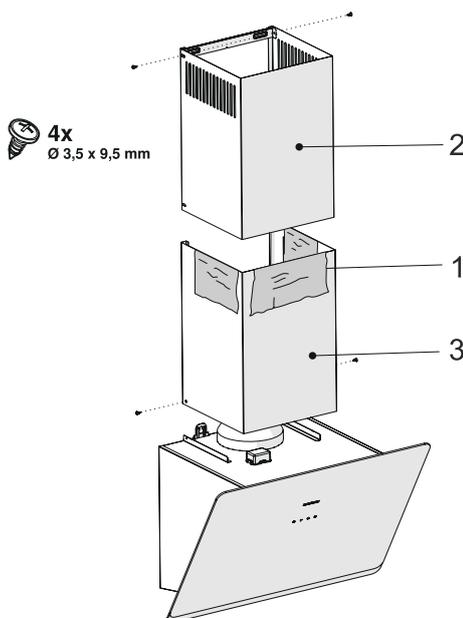

Fig. 14
- If there are protective sheets on the flues, remove them (Fig. 14 / 1).
- By pulling the upper flue upwards and screw to the flue connection plate through the left and the right sides ( Fig. 14 / 2 ).
- Mount the lower flue to the body through the left and the right sides.(Fig. 14).